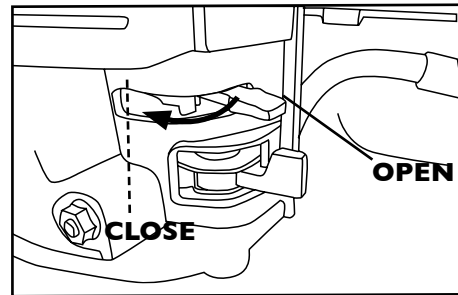

Fig 8. Choke Lever
2. To start a cold engine, move the choke lever (Figure 8) to the **CLOSED** position.